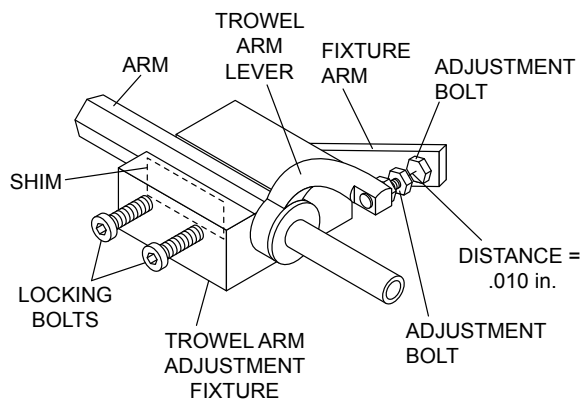

Figure 47. Trowel Arm Adjustment Fixture Components
3. Unscrew the locking bolts on the adjustment tool and place the trowel arm into the fixture channel as shown in Figure 47. A thin shim may be required to cover the blade holes on the trowel arm. Make sure to align the trowel adjustment bolt with the fixture adjustment bolt.
5. Adjust the bolt “distance” shown in Figure 47 to match one of the arms. The other arms will be adjusted to match this distance.